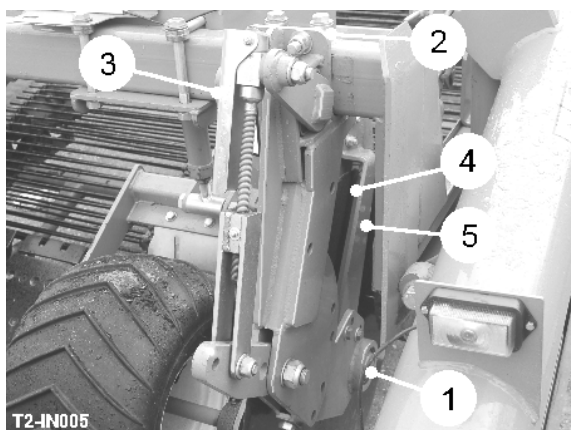

Fig 5
On row work, the harvester is fitted with four disc coulters (item 1, fig 5). On full width bed work, the harvester is fitted with two disc coulters. The discs run on either side of the ridge, cutting and parting the haulm and trash in front of the shares whilst at the same time containing the ridge and feeding it over the shares onto the digger web.
To set the disc coulters row width/cutting width, release the clamp bolts (item 2, fig 5) and slide the disc assembly along the bridge beam to the required position. When correctly set the discs should be approximately 20mm clear of the edge of the share blades. To set the disc coulters depth, turn the adjusting handle (item 3, fig 5), which also increases the spring load on the disc. The disc coulters are each fitted with two scrapers (item 4 & 5, fig 5). These should be set as close to the disc as possible without fouling it.